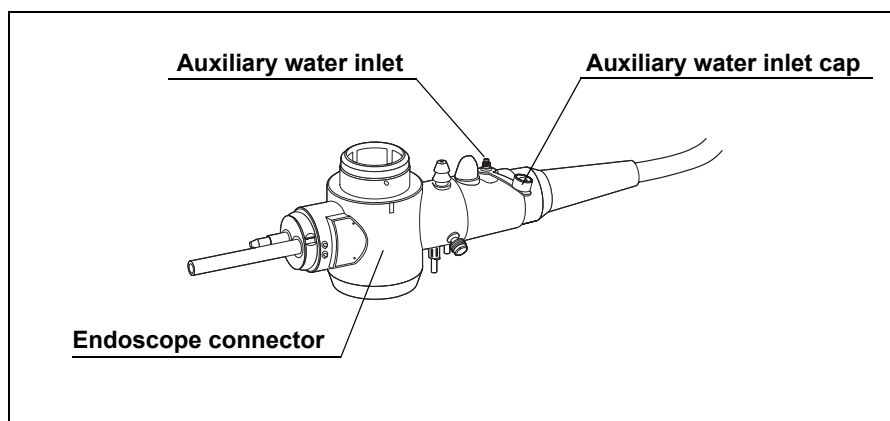

Figure 3.9
1. Confirm that the auxiliary water inlet cap attached to the endoscope connector has no dents, cracks or other irregularities (see Figure 3.9).